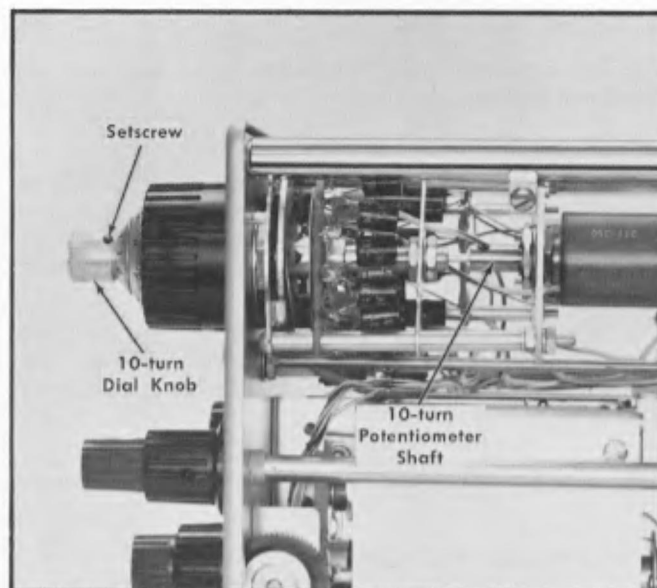
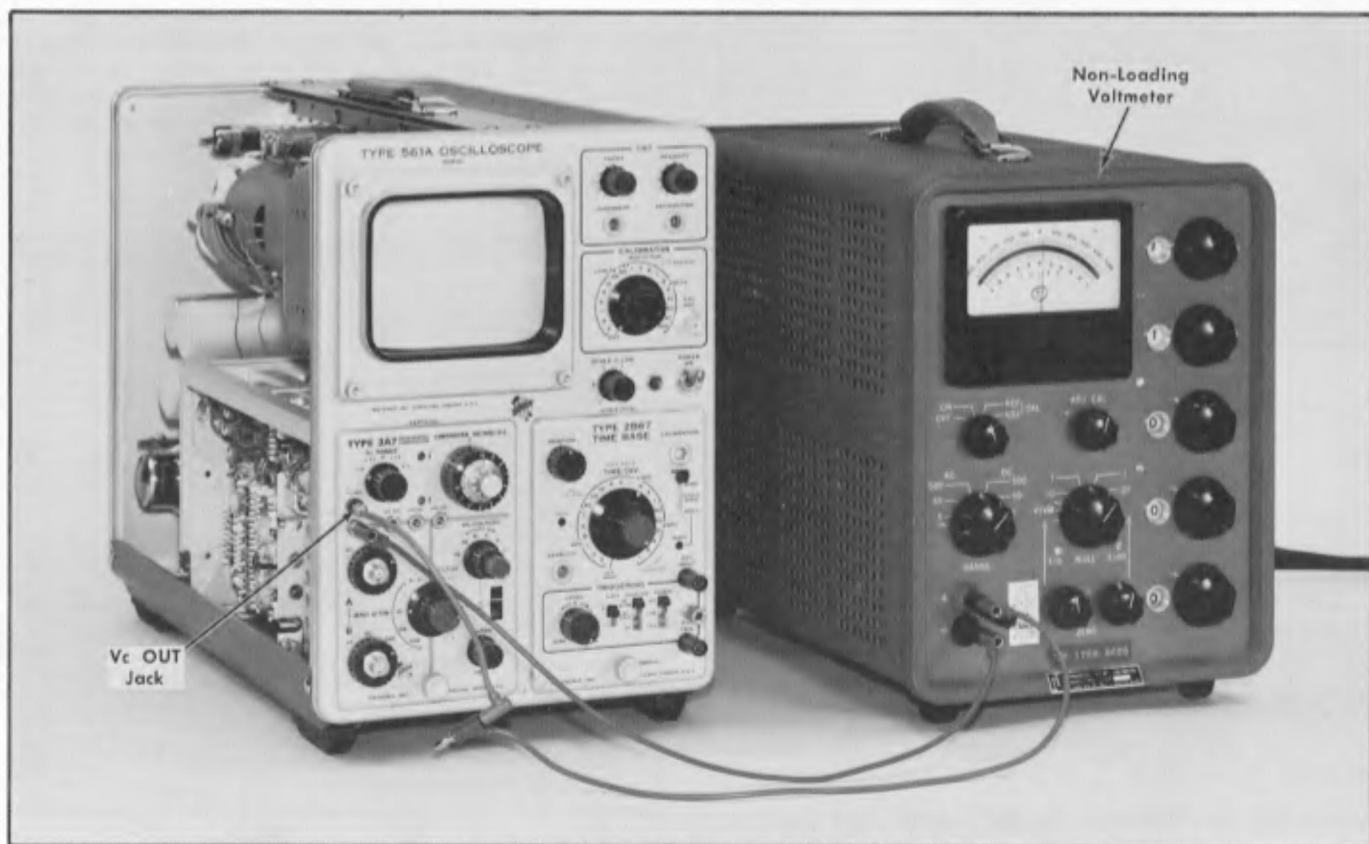

Fig. 5-11. Zero volts mechanical calibration, step 8.
Fig. 5-12. Setup at completion of step 9c.
b. With the COMPARISON VOLTAGE 10-turn dial set at its most counterclockwise position, check that the 10-turn dial reads 0-0. If it does not, loosen the setscrew (see Fig. 5-11) in the 10-turn dial knob and set the dial for the proper zero reading without turning the potentiometer shaft.
b. Set the non-loading voltmeter (item 8) to +11 volts.
c. Connect the voltmeter between the Vc OUT jack and ground. Fig. 5-12 shows the setup.
c. Reconnect the voltmeter between the Vc OUT jack and ground. (This setup is similar to the one shown in Fig. 5-12.)